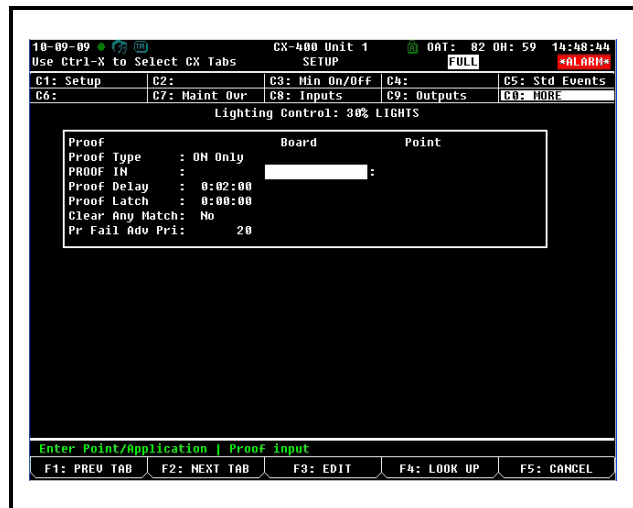

Figure 3-12 - Lighting Proof Setup Screen
3. Under the **C1:Setup** tab, set **Enable Proofing** to **Yes**. (**C0:MORE** tab becomes visible once you cursor across the tabs. See **Figure 3-12**.)